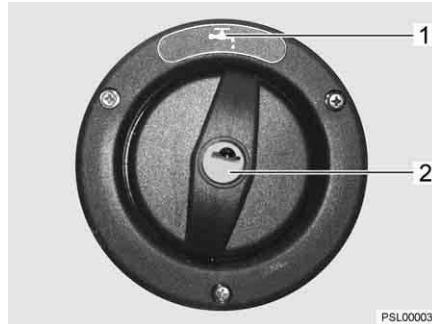

Fig. 6 Cap for the fresh water filler neck
- Insert the key in the locking cylinder (Fig. 6,2) and turn it in an anticlockwise direction.